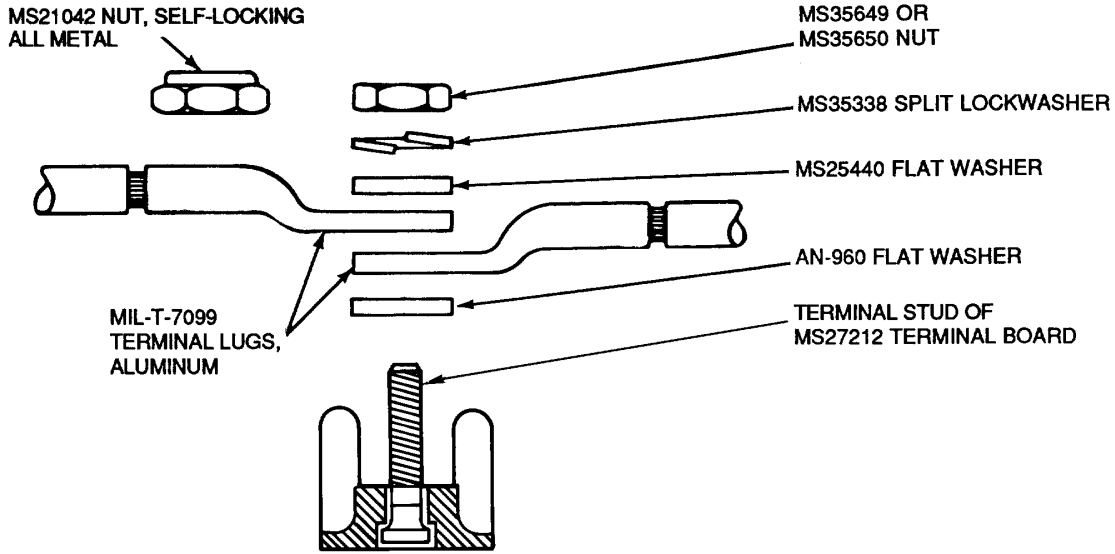

Figure 15. Hardware for Wiring Terminal Boards with Aluminum Terminals
29. **ATTACHING ALUMINUM TERMINALS.** To attach aluminum terminals to terminal boards special washers are required as shown in Table 3. Proceed as follows (Figure 15):
- c. Assemble in proper sequence (Figure 15).